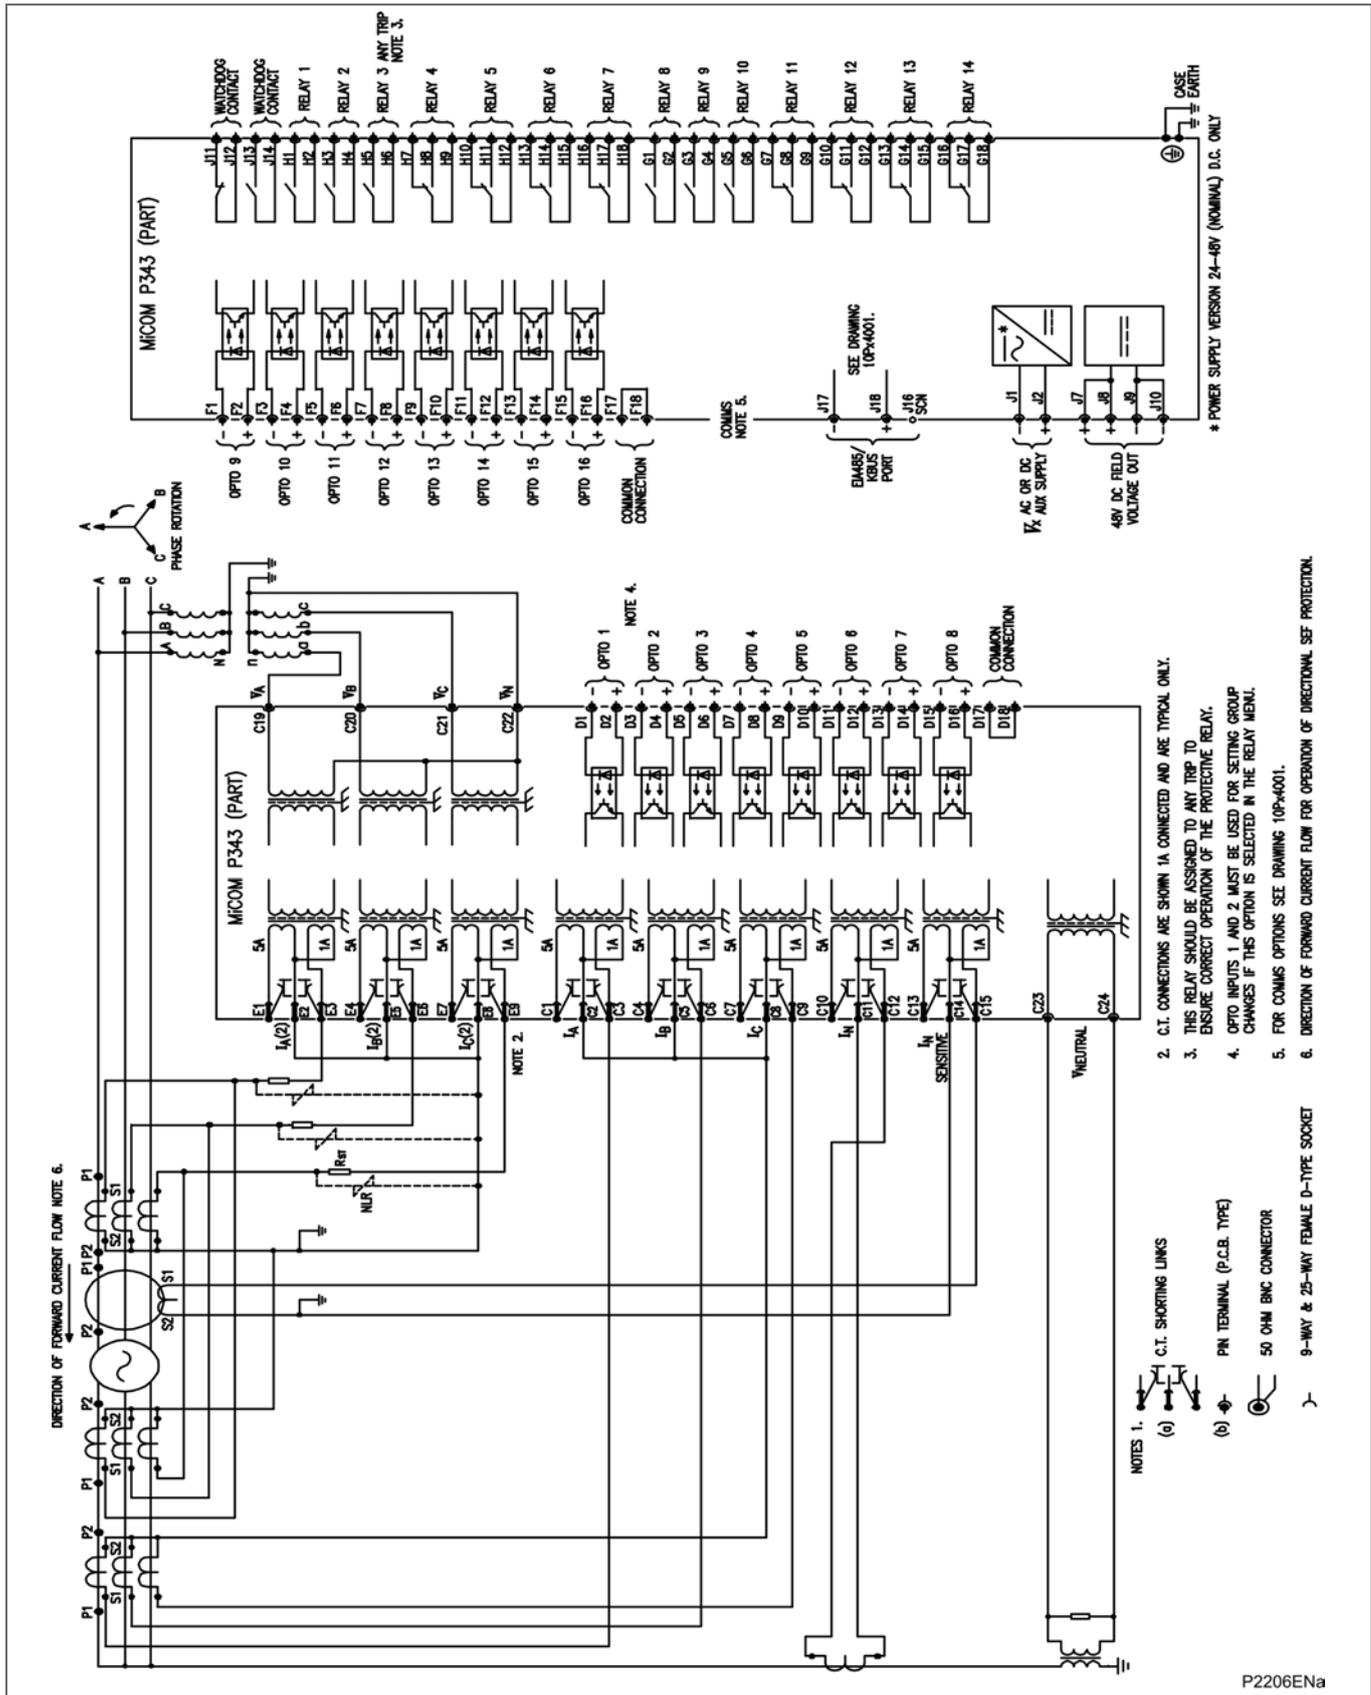

Figure 55 - P343 (60TE) with high impedance differential (16 I/P & 14 O/P)
- Figure 55 - P343 (60TE) with high impedance differential (16 I/P & 14 O/P)